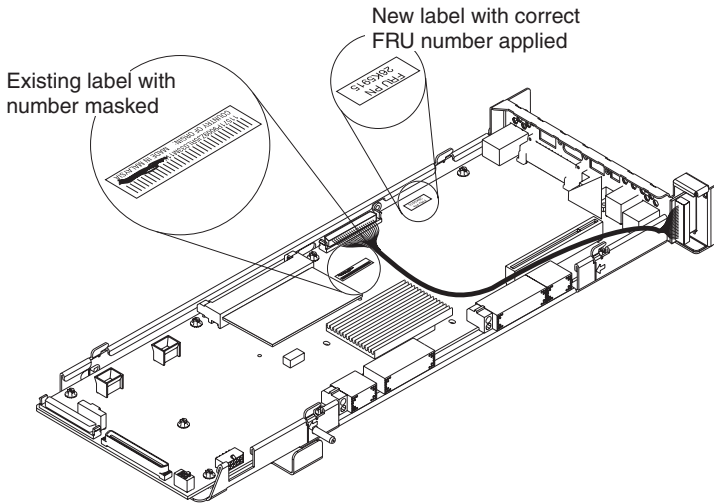

Figure 16. Updating the FRU number on the I/O board
2. Place the new FRU label from the option kit onto the I/O board as indicated in Figure 16.